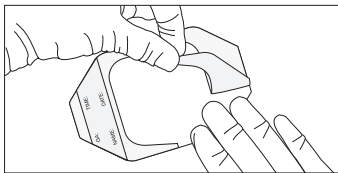

Figure 6
- Place without tension over insertion site. Slowly remove frame while smoothing down dressing edges (refer to Figure 6).